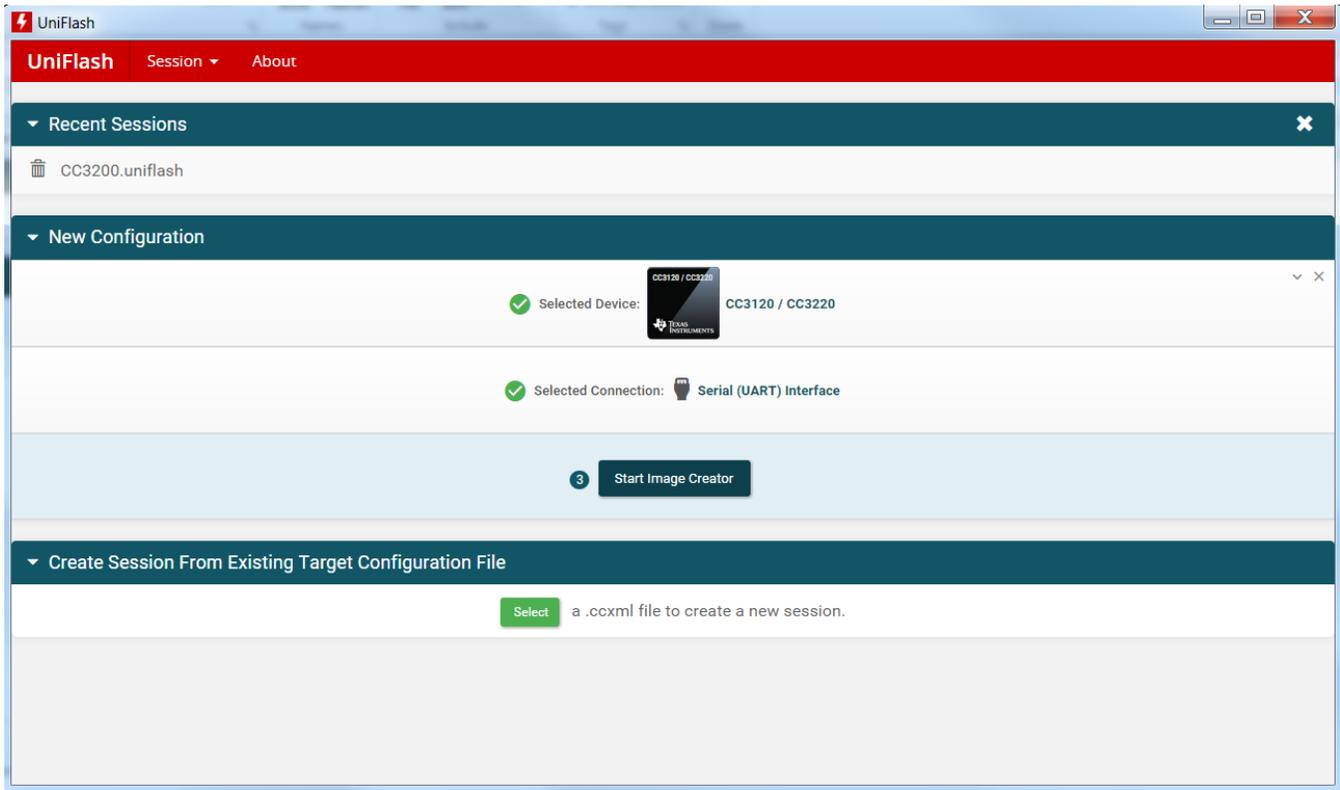

Figure 2-6. UniFlash – Start Image Creator
3. Select Start Image Creator (see Figure 2-6).